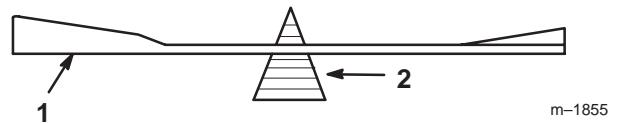
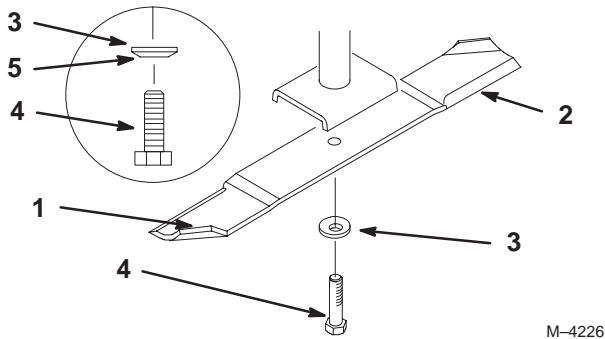

Figure 34
Figure 35
1. Hold the blade end using a rag or thickly-padded glove. Remove the blade bolt, spring disk and blade from the spindle shaft (Fig. 35).
2. Check the balance of the blade by putting it on a blade balancer (Fig. 34). If the blade stays in a horizontal position, the blade is balanced and can be used. If the blade is not balanced, file some metal off the end of the sail area only (Fig. 35). Repeat this procedure until the blade is balanced.
1. Install the blade onto the spindle shaft (Fig. 35).
2. Install the spring disk and blade bolt (Fig. 35). **Torque the blade bolt to 85–110 ft-lb (115–150 N·m).**